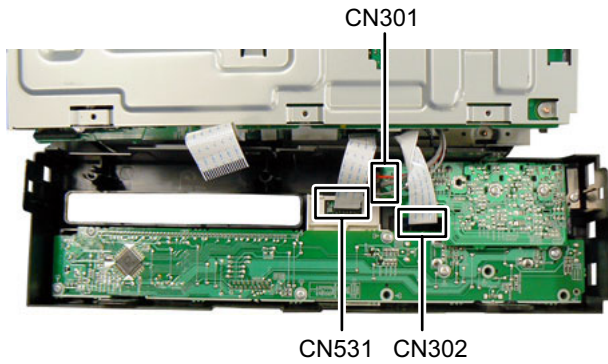

Fig.7
- (6) Disconnect the card wire from main board connected to connector CN531 of the Touch sensor board. (See Fig.7)
- (7) Disconnect the card wire from Main board connected to connector CN302 of the Front jack board. (See Fig.7)
- (8) Disconnect the connector wire from Main boards connected to connector CN301 of the DVD module board. (See Fig.7)